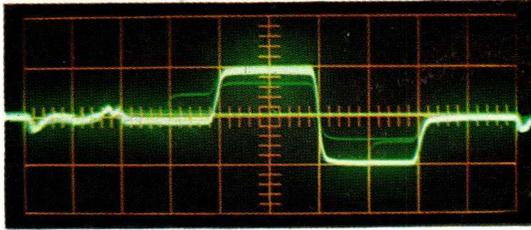

Fig. VII-37. Correct (G-Y) signal
- The level of bar 1 ((G-Y) = 0) and bar 4 (grey) should both be zero on the oscilloscope, see Fig. VII-37. If not, the signal from the matrixing circuit is not correct. Because the (G-Y) signal is actually matrixed from the (R-Y) and (B-Y) signals, the fault will not necessarily be due to an incorrect matrix, but could also be caused by, for example, an incorrect ratio of the output signals of the delay line and/or the demodulator circuits. Fig. VII-38 shows an incorrect (G-Y) output signal of the matrix.